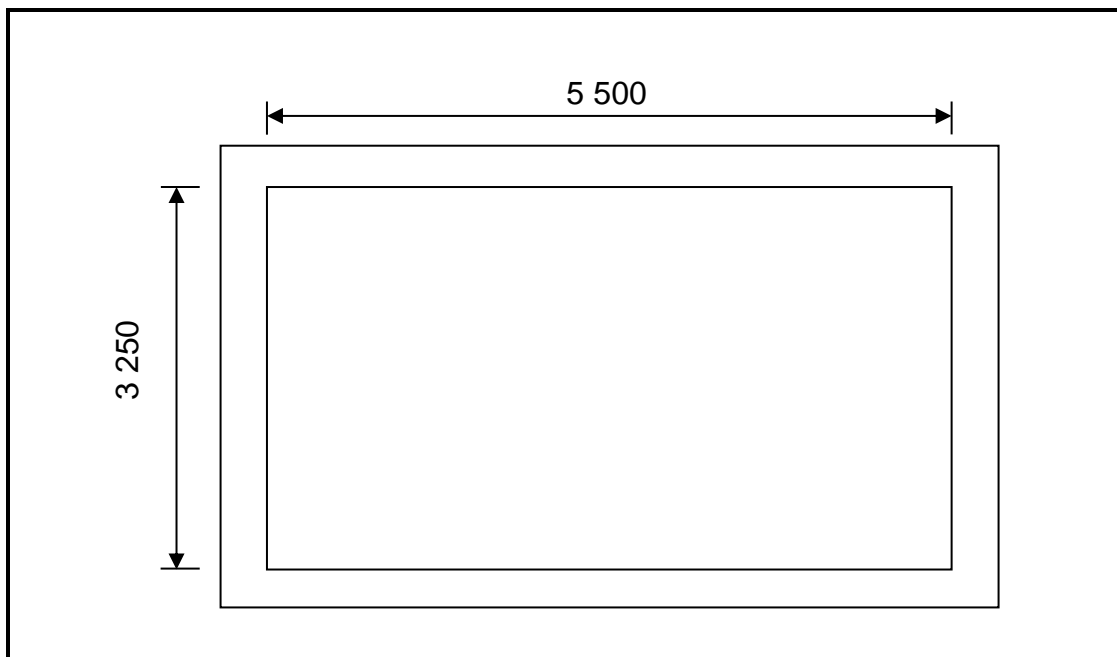

FIGURE 6.8
- 6.8 FIGURE 6.8 shows the outside measurements of a store-room. The foundation is 700 mm wide and 250 mm thick. Answer the questions in the ANSWER BOOK. Table format is NOT required_(needed) (show all formulas and steps).